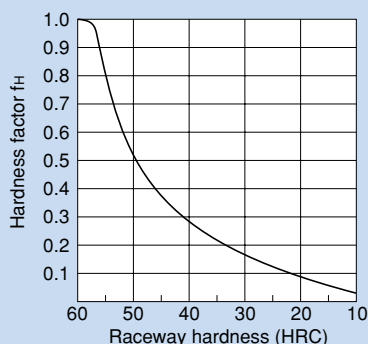

Fig. 2 Hardness factor (f_H)
- f_H : Hardness factor (see Fig. 2)